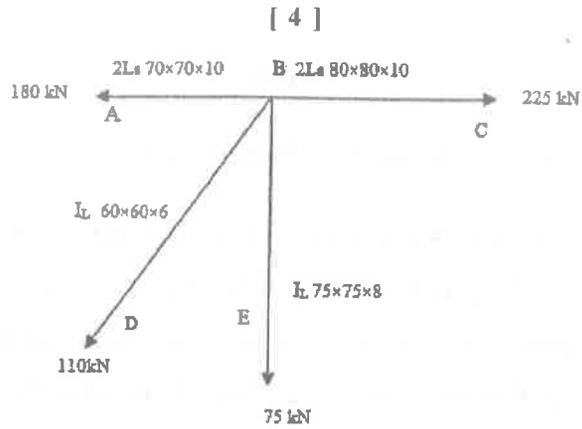

Fig. 3
- (d) Design joint B of roof truss as shown in Fig. 3. The members are connected with 16 mm diameter bolts of grade 4.6 to the gusset plate 12 mm thick. 8